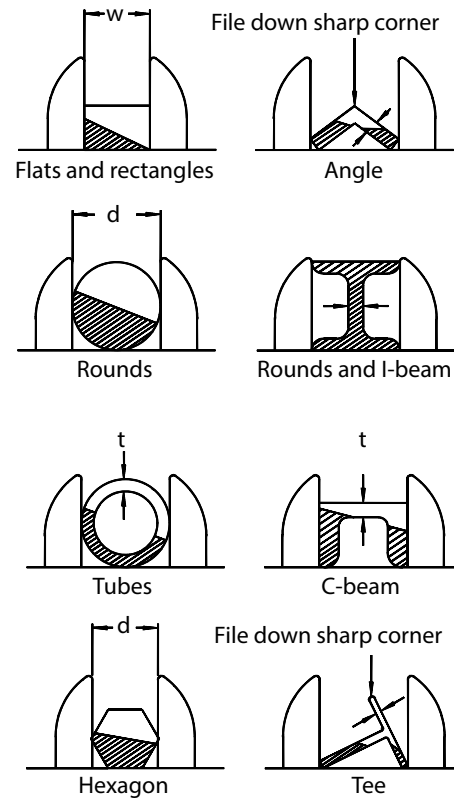

Figure 5 – Clamping configurations and thickness average calculation.
- The workpiece should rest flat on the workbed without the need for side support. Some suggested configurations are shown in Figure 5.
- Flats and rectangles have thickness averages of w (See Figure 5).
When choosing a blade, overall size of the work is not as important as the thickness average. Thickness average (**w**, **d** or **t**) is the average width of material which blade will contact during each cut. Figure 5 describes how thickness average should be calculated.